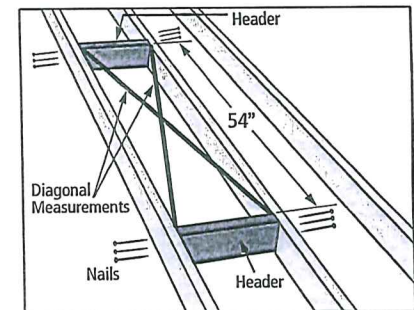

FIGURE 13
Make a rough opening to the size as required in table 2 (page 3) ensuring that the dimensions of the diagonals of the frame are the same as illustrated in figure 13.
A. For Rough opening without joist removal (figure 13)
- Locate headers in front and rear of the opening as shown in figure 13.
- Secure using (3) 16d nails into each end of the Header.